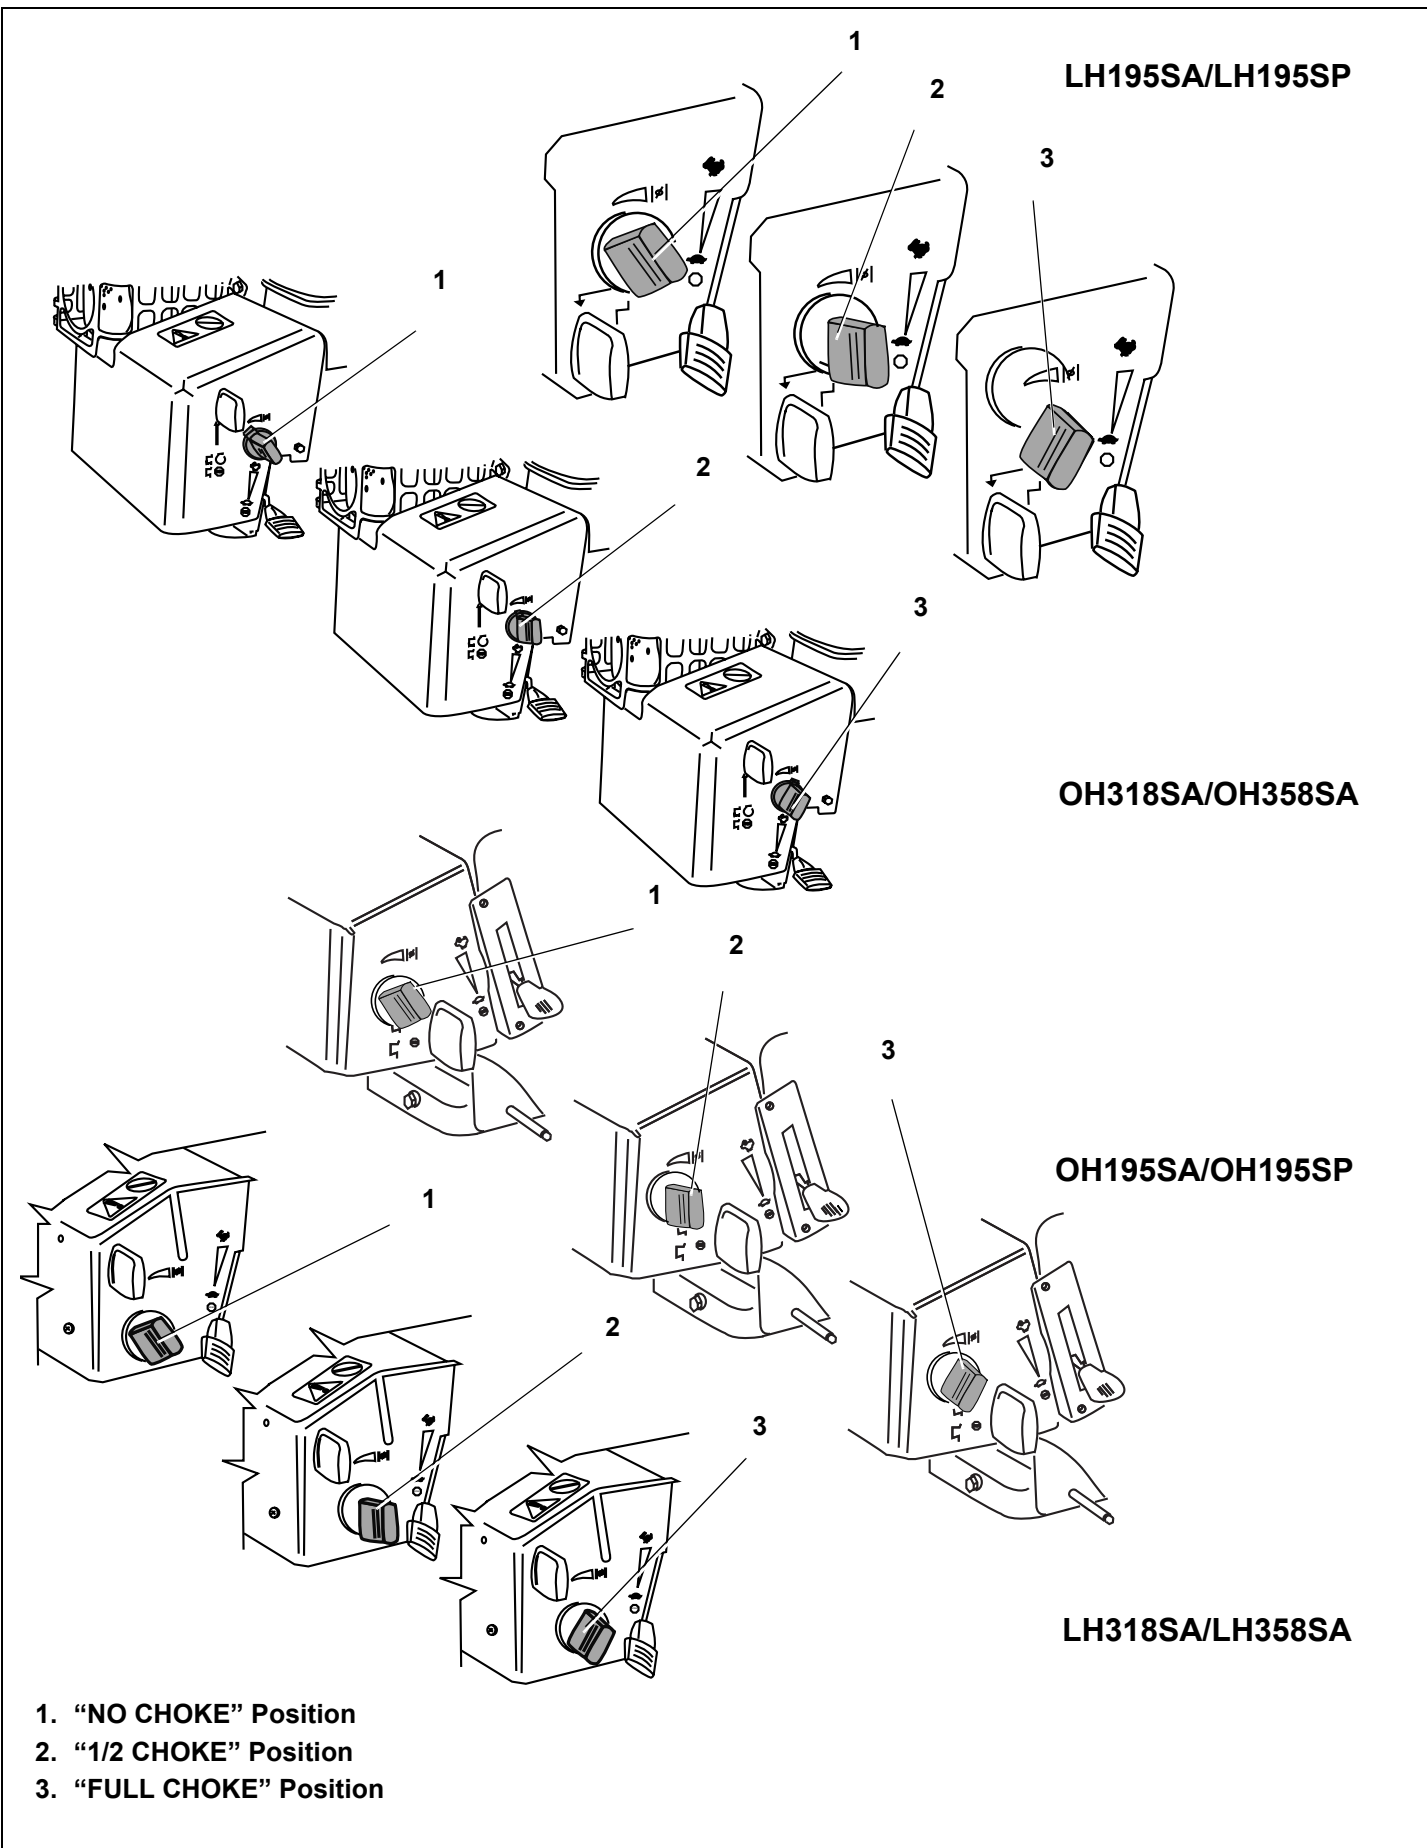

Figure 24. Choke Control Positions
6. Set choke control to “FULL CHOKE” position (see equipment manufacturer’s instructions). See Figure 24 on page 12. Afterward, continue reading instructions below.
- b. Momentarily move choke control to “1/2 CHOKE” position until engine runs smoothly. See Figure 24 on page 12. Afterward, continue reading instructions below.
11. If engine fires but does not continue to run, move choke control to “NO CHOKE” position and start engine. See Figure 24 on page 12. Afterward, continue reading instructions.
4. Set choke control to "FULL CHOKE" position (see equipment manufacturer's instructions). See Figure 24 on page 12. Afterward, continue reading instructions below.
If restarting a warm engine after a short shutdown, move engine speed control to "FAST" position and move choke control to "NO CHOKE" position. See Figures 24, 26 and 27 starting on page 12. Afterward, continue reading instructions below.
- a. Momentarily move choke control to "1/2 CHOKE" position until engine runs smoothly. See Figure 24 on page 12. Afterward, continue reading instructions below.
9. If engine fires but does not continue to run, move choke control to "NO CHOKE" position and start engine. See Figure 24 on page 12. Afterward, continue reading instructions below.
3. Move engine choke back and forth several times and leave in the "FULL CHOKE" position. See Figure 24 on page 12. Afterward, continue reading instructions below.